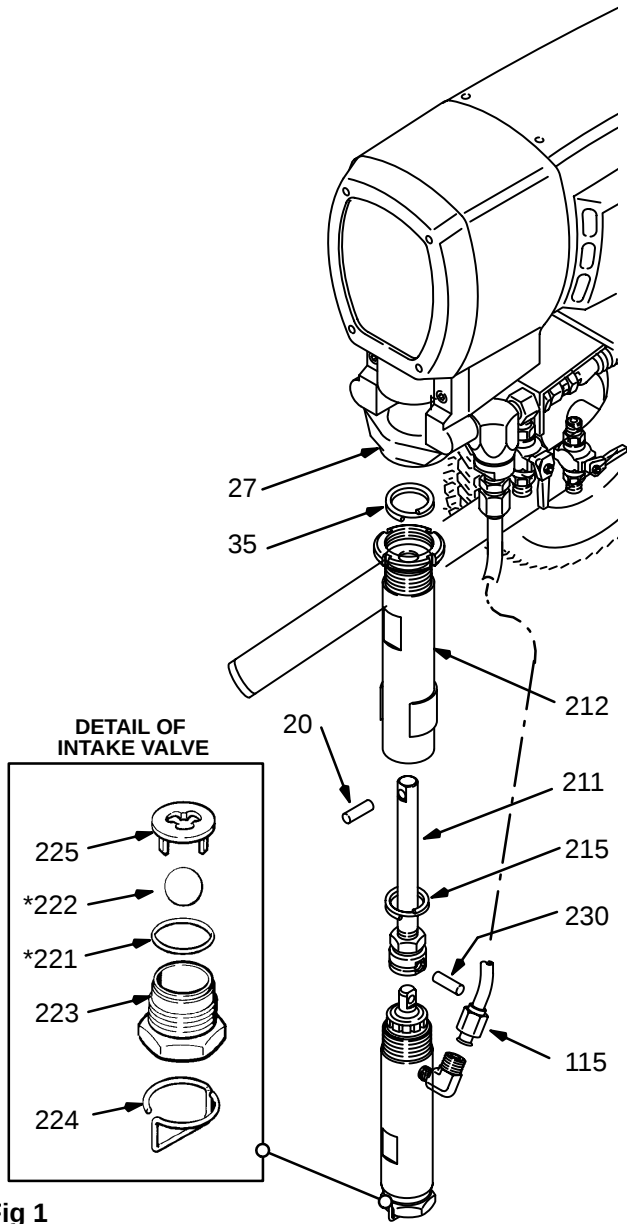
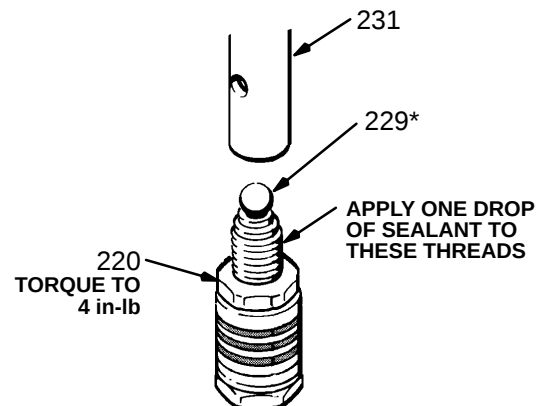

Fig 1
Fig 4
Removing the Pump *See Fig 1.*
1. Remove the spacer (224). Unscrew the intake valve (223). Remove the parts. *See Fig 1.*
3. Tighten the packing retaining nut (220) onto the piston valve (226) to 4 in-lb. See Fig 4.
5. Apply one drop of adhesive, supplied, to the threads of the piston valve. Hand tighten the valve into the piston rod just until the nut (220) contacts the rod (231). See Fig 4.
12. Slide the sleeve/piston rod assembly **INTO THE BOTTOM OF THE CYLINDER**. See Fig 4.
13. Screw down the cylinder locknut (38) until it is finger tight at the bottom of the external cylinder threads.
14. Place flats of the intake valve (223) in a vise. Install a new o-ring (202*). Screw the pump cylinder into the valve. Torque to 111 ft-lb (150 N.m). See Fig 1.